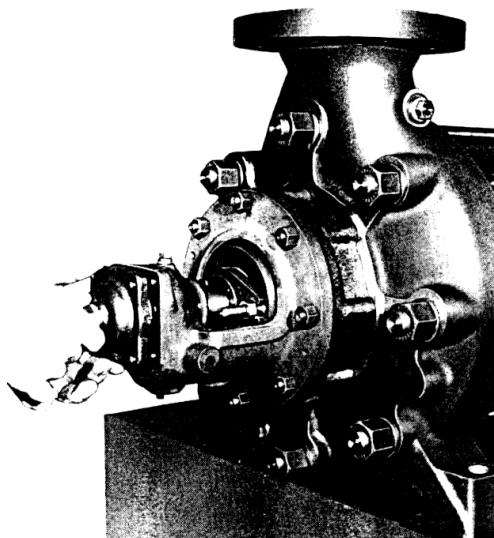

Fig. 84 - Mounting the bearing cover
6. Mount bearing cover (360) and flat gasket (400.4) (see Fig. 84).